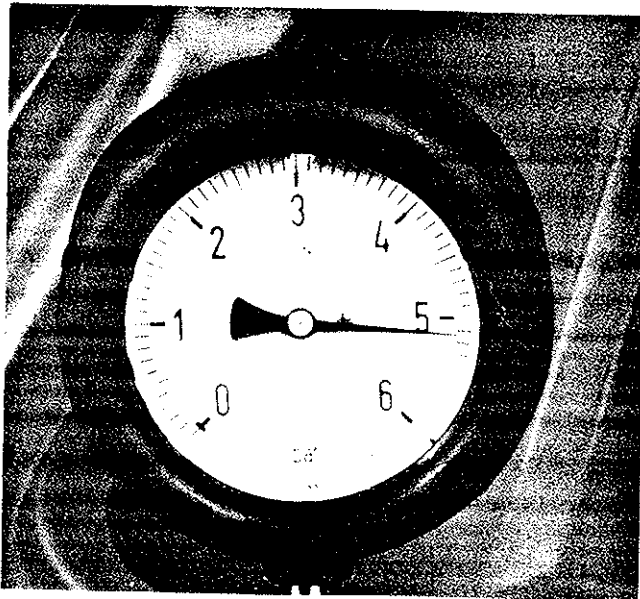

Fig. 5-9. Typical system pressure for K-basic and K-lambda systems is 5.2 bar (75 psi)
**Measurement.** With the gauge valve closed to read system pressure, bridge the fuel pump safety circuit and run the pump. The gauge should read within the limits given in your shop manual, as shown in Fig. 5-9. What if system pressure is not in specification? If you've tested fuel-pump delivery as shown in 4.1 Fuel Pump Delivery and it's OK, then you should adjust system pressure as described below.